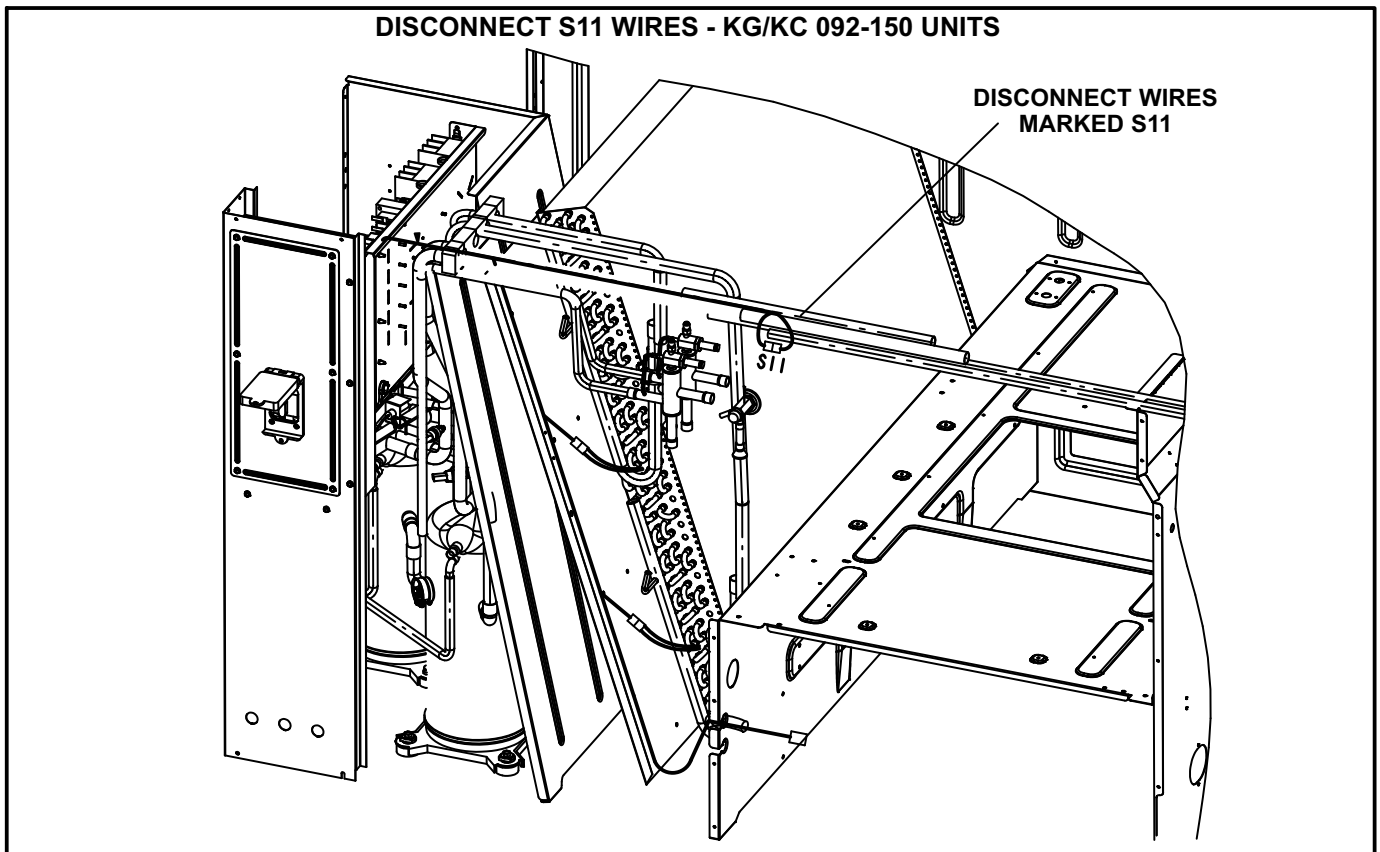

FIGURE 7
- 1- Disconnect wires marked S11 as shown in figure 7.